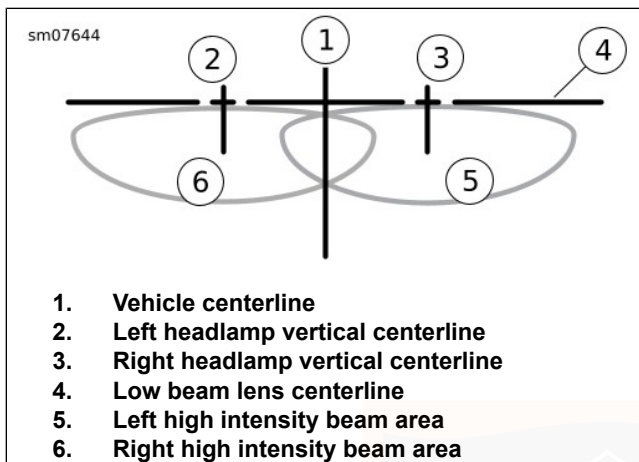

Figure 98. Headlamp Beam Pattern: Dual LED
- b. See Figure 98. The headlamps are aligned when the light beam hot spots are located at or below line (4) and centered on lines (2, 3).
5. See Figure 98. Cover the right headlamp. Adjust left headlamp so the top of the high intensity zone (6) is at or below horizontal line (4) and centered under the left centerline (2).
6. Cover the left headlamp. Adjust right headlamp so the top of the high intensity zone (5) is at or below horizontal line (4) and centered under the right centerline (3).